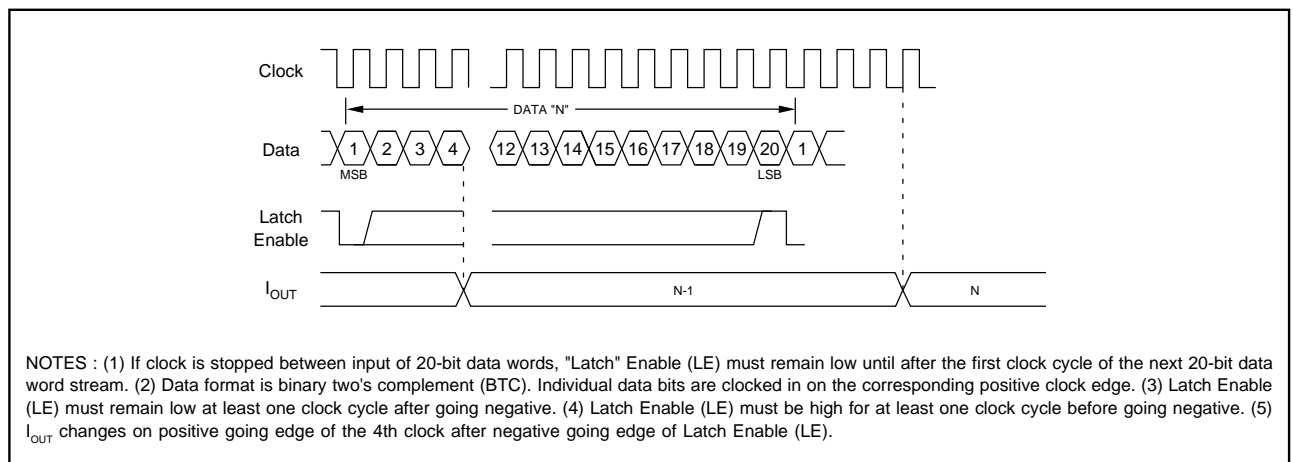

FIGURE 2. Timing Diagram.
All DAC serial input data (Pin1, DATA) bit transfers are triggered on positive clock (Pin2, CLOCK), edges. The serial-to-parallel data transfer to the DAC occurs on the falling edge of Latch Enable. The change in the output of the DAC occurs at a rising edge of the 4th clock of the CLOCK after the falling edge of Latch Enable. Refer to Figure 2 for graphical relationships of these signals.
- CORNER LEADS (1, 8, 9, AND 16) MAY BE CONFIGURED AS SHOWN IN FIGURE 2.